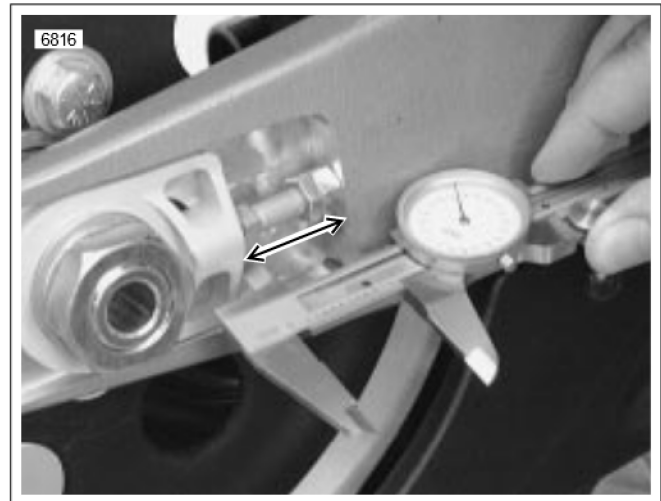

Figure 9. Checking Rear Wheel Alignment, Right Side Shown
17. Check rear axle alignment. See Figure 9. Measure each side from the flat of the axle carrier to the flat of the swingarm.
- a. If belt is too loose, tighten adjusting nut (3) to decrease deflection and therefore increase drive belt tension.
- b. If belt is too tight, loosen adjusting nut (3) to increase belt deflection and therefore decrease drive belt tension.
- c. See Figure 9. Repeat this step until the distance between the flat on the axle carrier and the flat of the swingarm is the same on both sides of the rear wheel and belt deflection is correct.